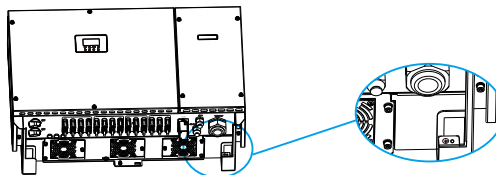

Figure 5.3 Securing the PGND cable
Step 3 Remove the ground screws from the ground points, secure the PGND cable (done by step 1 & 2) using the ground bolts, and tighten the bolts to a torque of 5 N•m using a socket wrench, as shown in Figure 5.3. PE wire must be well grounded to ensure that impedance between Neutral wire and Earth wire be less than 10Ω.